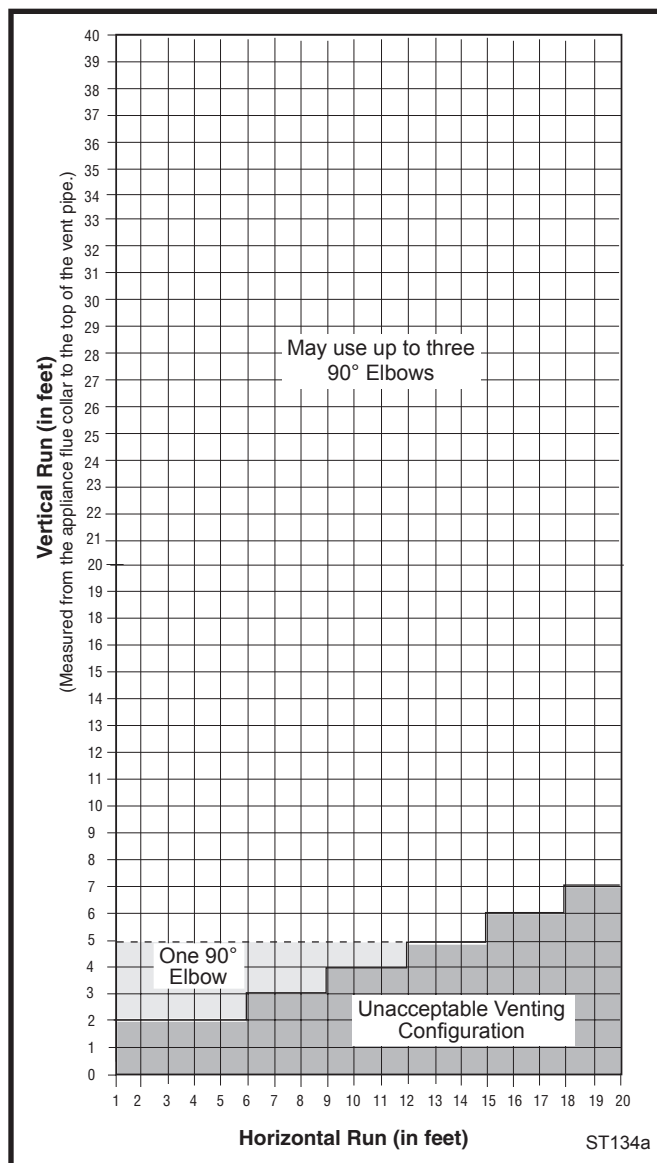

Fig. 7 Horizontal vent termination window.
The vent must rise vertically a minimum of 24" (610mm) off the top of the unit, before the first elbow. The horizontal run may extend up to 20' (6m) and include a vertical rise of up to 40' (12m). (Fig. 7) Horizontal termination must also meet the criteria shown in Figures 9 through 11.
- Approved vent systems must terminate above and including the heavy line in Figure 7.